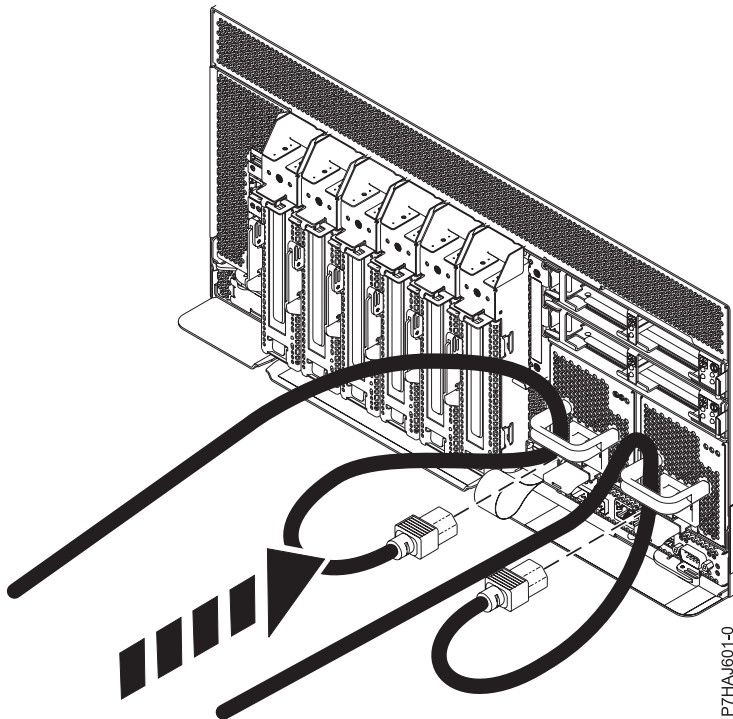

Figure 9. Connecting the power cords
2. Reconnect the power cord to the system unit as shown in Figure 9 on page 24. Ensure that the cords are threaded through the handles.